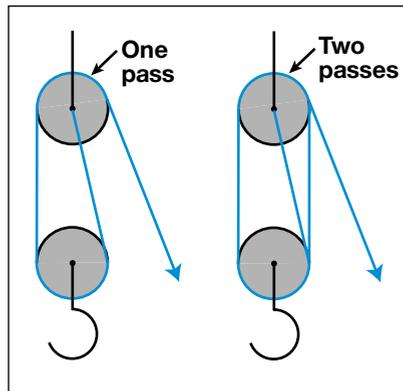

Fig. 2—Pulleys
**Pulleys:** While we are familiar with sailing ships using blocks and tackles to support masts and to raise and lower sails, we use a belt and pulley system on our engines to turn water pumps, power steering pumps, cooling fans, and alternators that are mounted at the front of engines (Fig. 2, Photo 2).